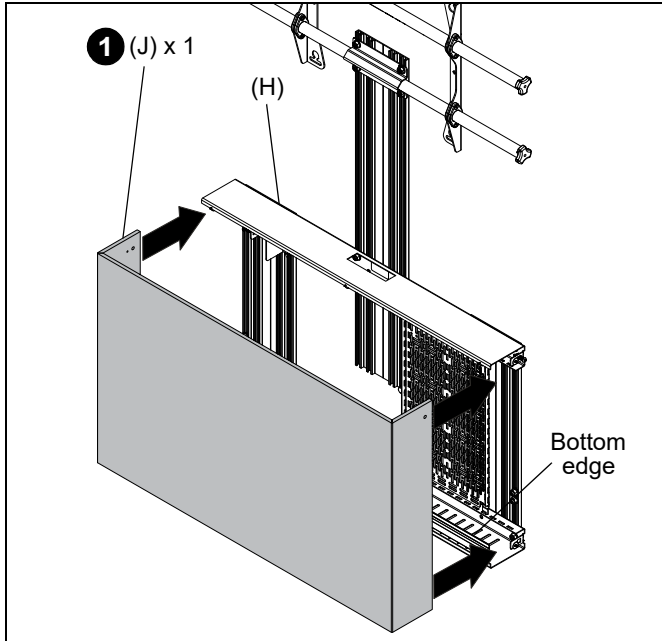

Figure 20
1. Attach the large cover (J) to the outside of the storage box (H). (See Figure 20)